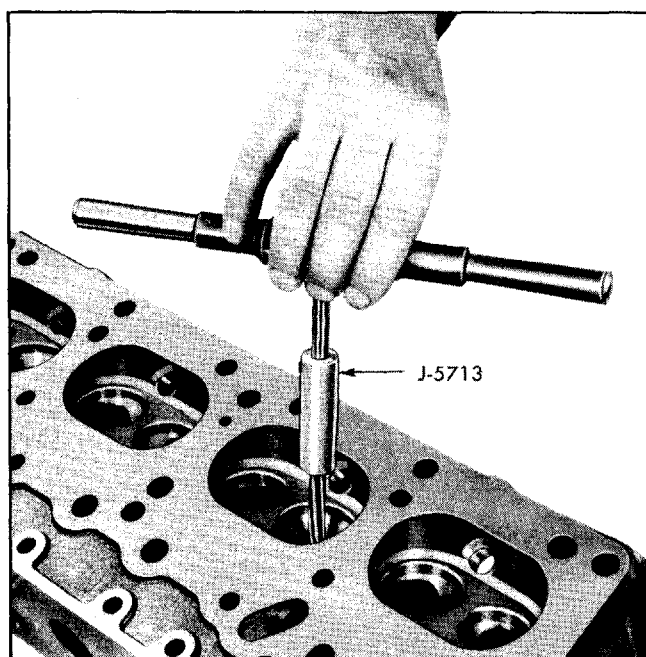

Fig. 6-44 Reaming Valve Guide
3. Carefully ream the valve guide using Valve Guide Reamer J-5713 to provide the proper taper (.0015" per inch) and the correct valve fit (Fig. 6-44). Correct fit of valve stem in valve guide is such that when valve is started in guide it will just drop through of its own weight, but will have no perceptible side play. **NOTE:** Since this is a tapered reamer, the hole in the valve guide will become larger as the reamer is turned down. To avoid reaming oversize, set the sliding stop to  $3\frac{1}{4}$ " from end and ream until sliding stop bottoms. Then, move stop back to  $3\frac{1}{2}$ " from end and very carefully continue reaming, a little at a time, alternately reaming and testing valve stem fit, until the exact fit is obtained.